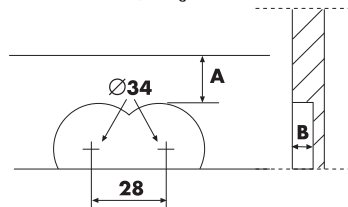

Fig. 1
SISTEMI as always aware of the requirement and problems in woodworking, has created TRIMATIC 28. TRIMATIC 28 is designed for door and window frame makers who manufacture wood/wood-aluminium windows and French windows provided with single/double tilting sash or wing. TRIMATIC 28 allows drilling and manufacturing the seat for angular hinge and upper hinge with a normal pillar drill or a portable electric drill. TRIMATIC 28 is an equipment suitable for drilling holes with a distance between centres of 28 mm, for angular hinges "TREND" (See Fig. 1).
Disassemble the support table (8) and position the equipment on a surface suitable for the type of work. Procure a rod with $\varnothing 10$ and length suitable for the job to be carried out and insert it in the hole (9). Position the reference stop and lock the whole assembly with the knobs (3). Fix one or more reference blocks on the work surface depending on the length of the door to be drilled. Adjust the screws (7) and (4) (See photo 1) according to the distances "A" and "B" (see Fig. 1). Finally, position the door to be drilled (see Fig. 2)